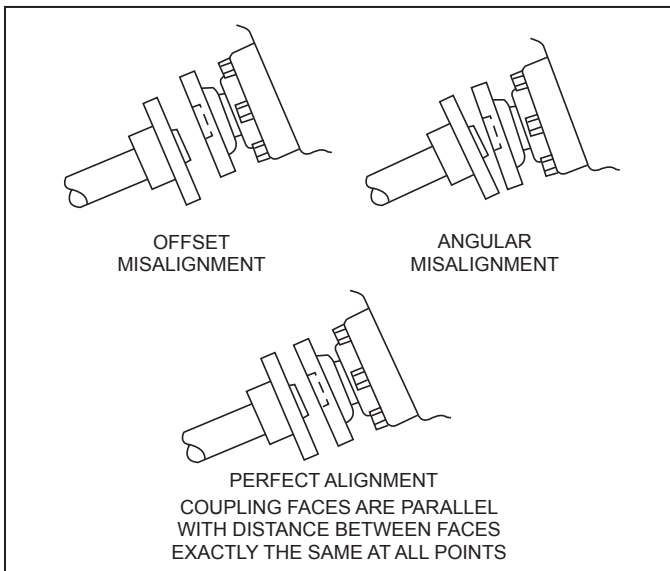

Figure 11-25 Shaft Mating Surface Check
3. Check that the coupling center lines align by butting the propeller shaft coupling against the transmission coupling (Figure 11-25). The shoulder on the propeller shaft coupling face should engage the recess on the transmission coupling face, with no resistance.